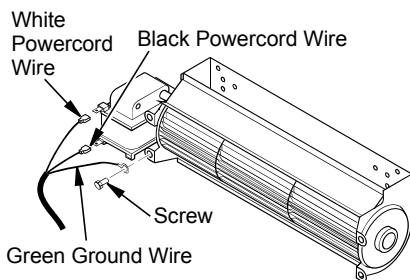

Figure 14 - Removing Wires from Blower
3. Disconnect power cord wires from blower motor (if connected) (see Figure 14).
4. Disconnect green ground wire from blower housing (if connected) by removing screw holding wire terminal (see Figure 14).
10. Attach the terminal ends of the white and black power cord wires to the terminals on the blower motor (see Figure 14). Push firmly.
11. Attach the terminal end of the green power cord wire to the front tab of the blower housing using screw provided (see Figure 14, page 6).